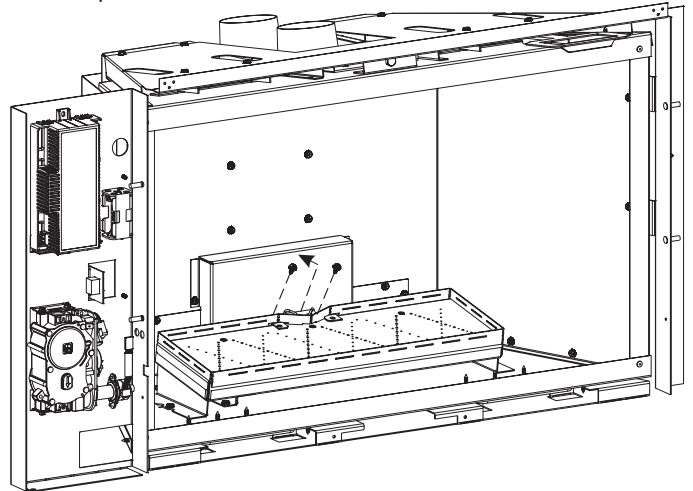

Figure 44
11. Remove the two screws securing the pilot to the burner. **See Figure 44.**
12. Pull the pilot toward the back of the unit just enough to get it safely out of the way. **See Figure 44. DO NOT** disconnect the pilot.